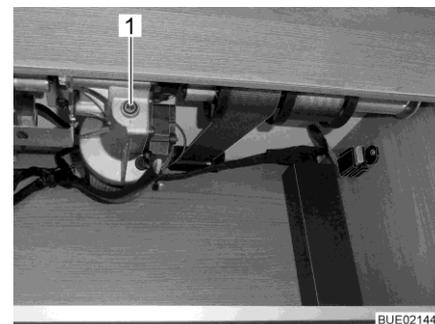

Fig. 150 Access to drive
- Insert the crank provided or an Allen wrench into the accommodation on the motor (Fig. 150,1).